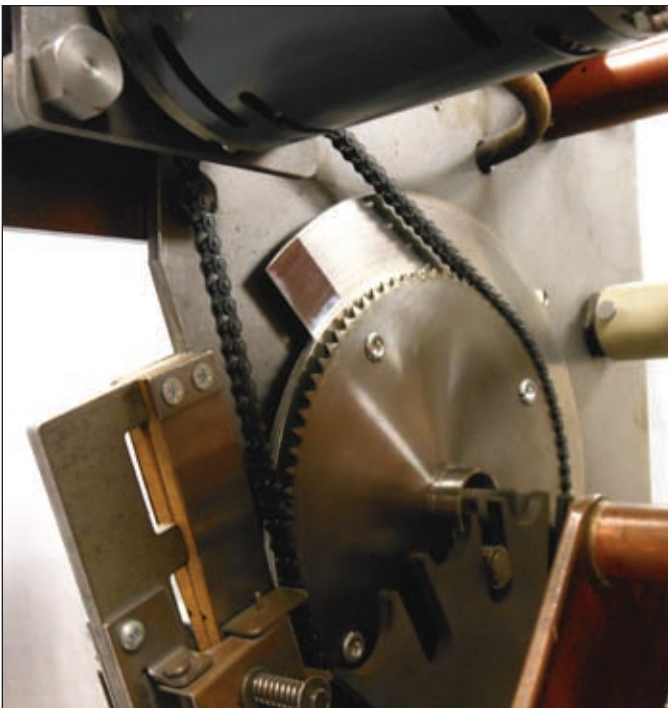

Figure 3.
2. Rotate the motor until the brake disc disengages from the brake pads on the brake assembly. See Figure 3.